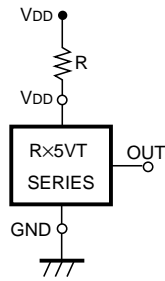

FIG.9
1. When R5VT×C (CMOS Output) is used in FIG. 9, this IC may oscillate by the through-type current at the detection when impedance is connected between Power Source VDD and R5VT VDD Pin. When R5VT×A (Nch Open Drain Output) is used in FIG. 9, and R becomes excessively large, Detector Threshold may be varied because of the voltage drop of the supply current in the IC itself.